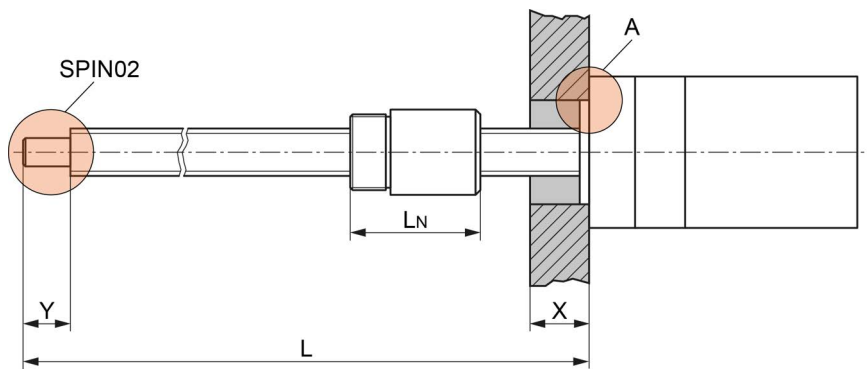

Figure 1 Option SPIN02 / Stroke / Centering
- If possible, use the flange's front face centering collar for alignment (Figure 1; detail "A").
- Special length spindles and/or high speed operation require an additional bearing at the free spindle end (Figure 1; option "SPIN02").
- Depending on the installation setup, you will need to subtract certain axial dimensions from the total length of the spindle (Figure 1). The maximal permitted stroke calculates as follows: